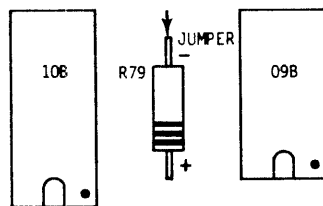

Figure A3-5. Jumper Connection to R79
3. Jumper the negative side of resistor R79 to ground. Resistor R79 is located between the integrated circuits at 09B and 10B (figure A3-5).